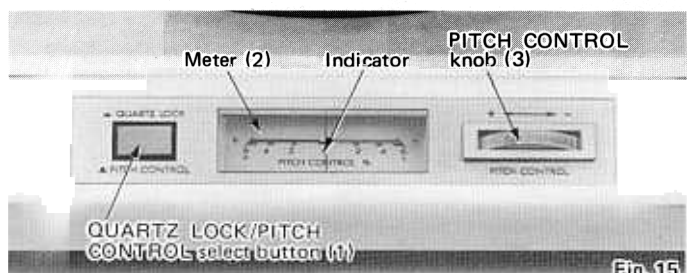

Fig. 15
4. How to use the QUARTZ LOCK/PITCH CONTROL meter (See Fig. 15)